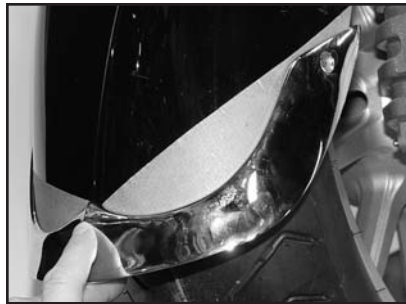

Figure 1
2. Carefully, position the Rear of Front Fender Tip on the fender, make sure the Tip is centered on the fender. **Figure 1**